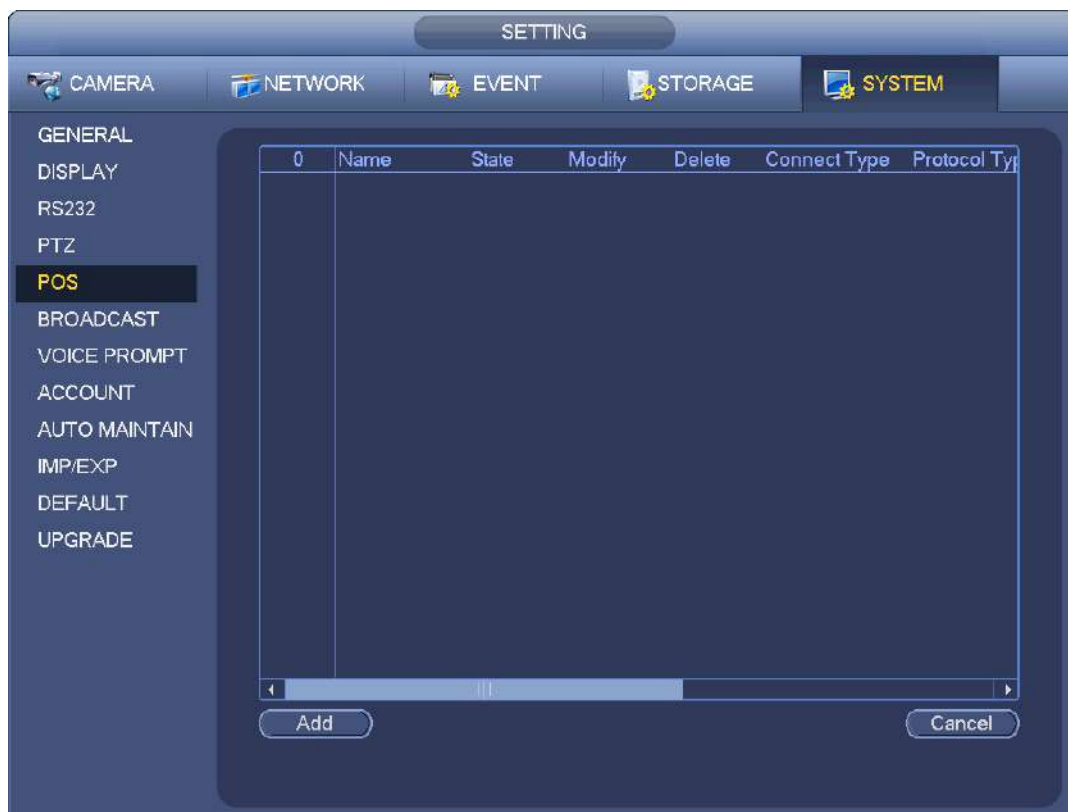

Figure 4-158
Step 1 From main menu->Setting->System->POS, the interface is shown as below. See Figure 4-158.